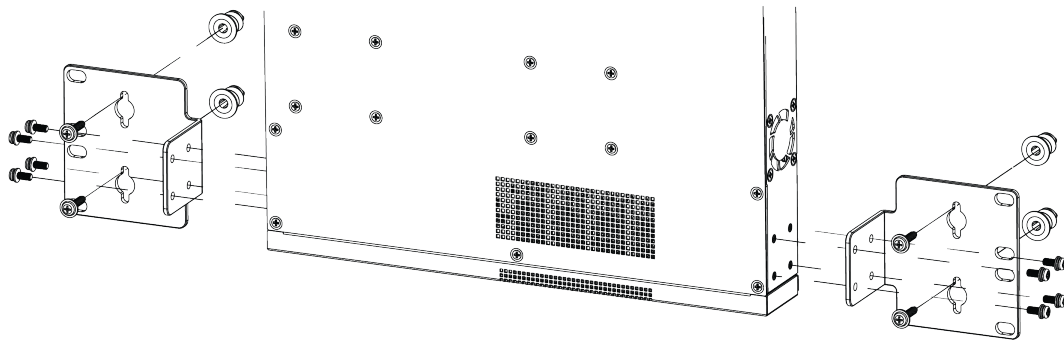

Figure 47: Wall-Mount: Attaching larger mounting ears to 5320-16P models
4. Using rack mount screws, attach a wall-mounting ear to the left side of the switch, at the front end. Figure 47 on page 69 shows the attachment of the screws.